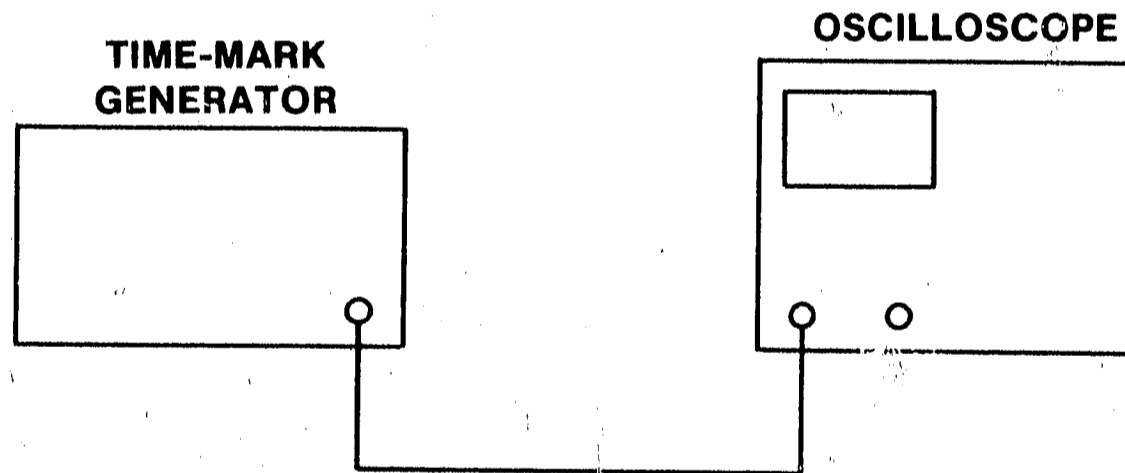

Figure 4-5. Sweep Time Accuracy Test Setup
- a. Connect equipment as shown in figure 4-5.